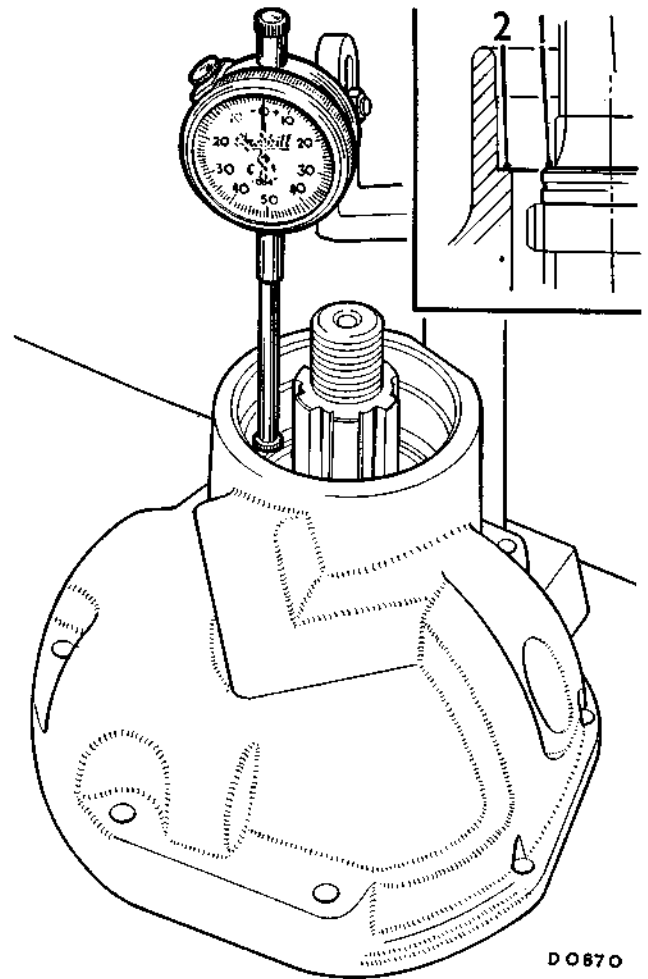

Fig. Fc.12
- a. Using dial gauge 18G 191, take a reading from the rear face of the selective washer (Fig. Fc.12).